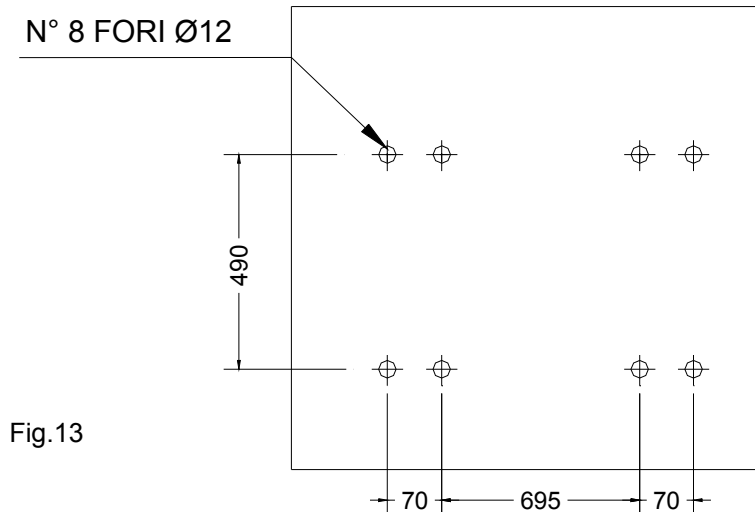

Fig.13
- ✓ Drill the required holes in the chosen wall as illustrated in fig.13.